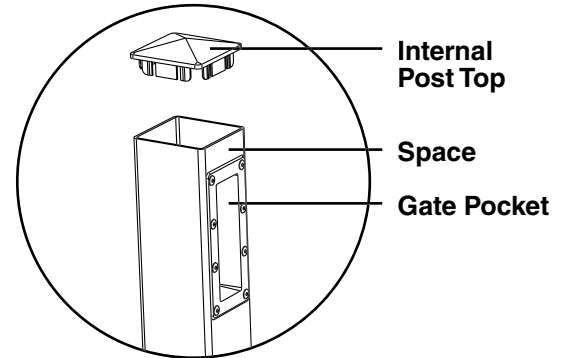

Figure 1
- 2.) Affix the internal post tops onto the top of the gate uprights using provided cement. Make sure to affix the post top to the correct end of the upright (top has spacing between gate pocket and top of post). See *Figure 1*.